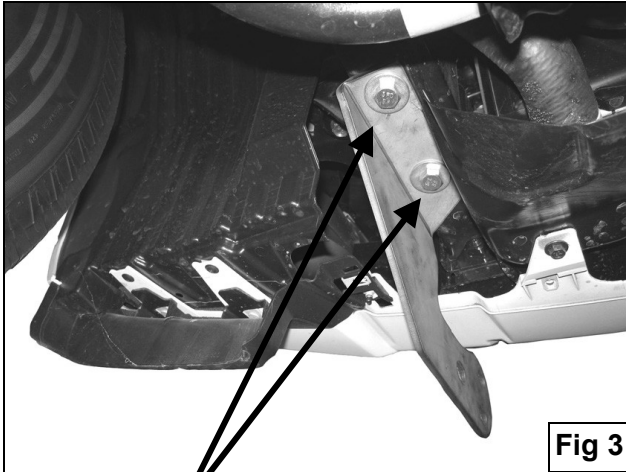

Fig 3
5. Locate the driver side Mounting Bracket and partially hang it from factory threaded holes on the frame rail using the included (2) 12-1.25 x 35mm Hex Head Bolts (fine thread), (2) 12mm Lock Washers, and (2) 12mm Flat Washers (**Figure 3**). Repeat this step for passenger side.